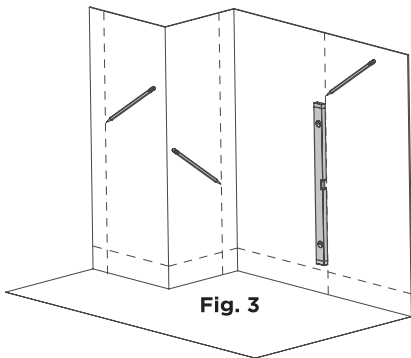

Fig. 3
- 4.1 Draw plumb vertical reference lines on existing wall and 1 continuous leveled horizontal line at the bottom of the wall. **(Fig. 3)**